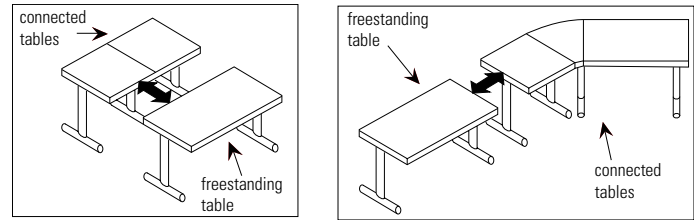

Figure 6 - Ganging with Connected Tables
- Freestanding tables can be ganged with connected tables in some cases, providing that the number and size of connected tables is easily movable (**Figure 6**).